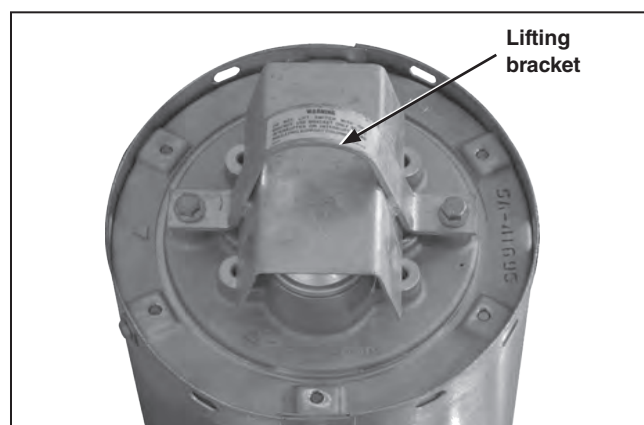

Figure 18. Removing the interrupter lifting bracket.
STEP 5. Remove the interrupter lifting bracket and associated $\frac{1}{2}$ -inch stainless steel hardware from on top of the interrupter. See Figure 18. Discard the lifting bracket but retain the hardware.